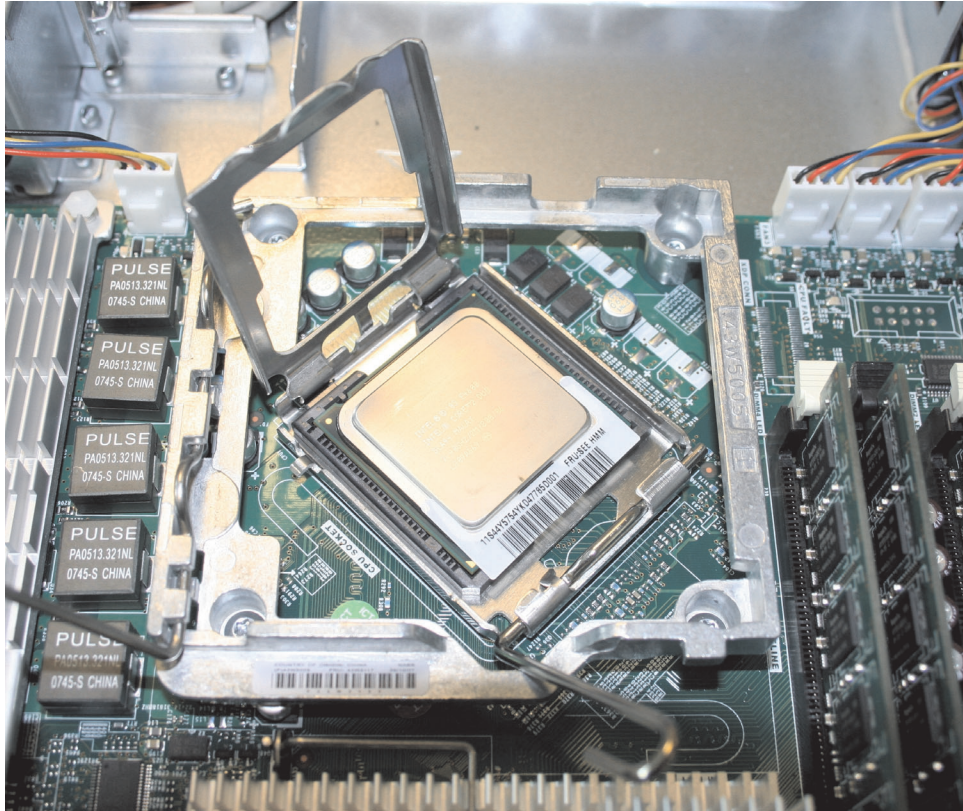

Figure 282. The SAN Volume Controller 2145-8A4 microprocessor bracket frame fully opened
2. Orient the microprocessor retention module as shown in Figure 282.